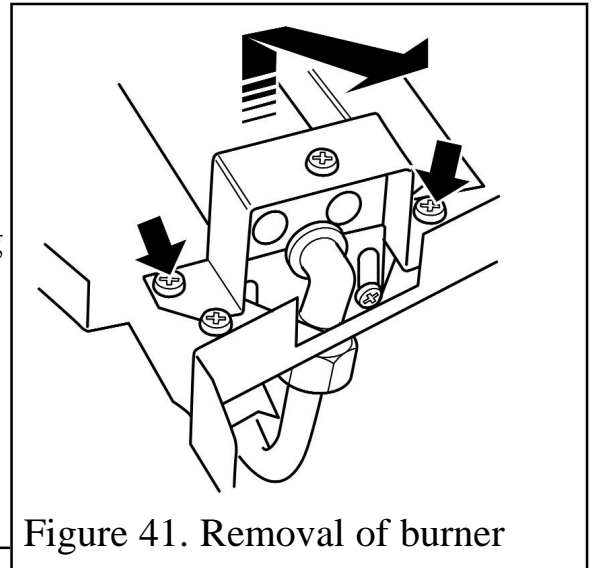

Figure 41. Removal of burner
(See figure 41).
3. Remove the two screws from the burner clamping plate (See figure 41).